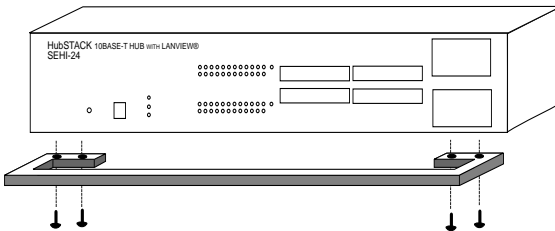

Figure 3-3. Attaching the Strain Relief
2. Attach the strain relief bracket to the bottom of the SEHI as shown in Figure 3-3.